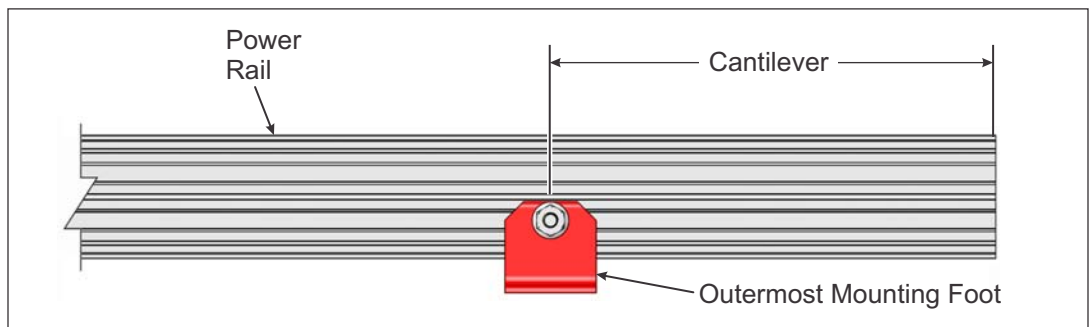

Figure 2-1: Cantilever Measurement and Marking
- A. Measure and mark the cantilever dimension supplied by the design manual onto the Power Rail. (See Figure 2-1)